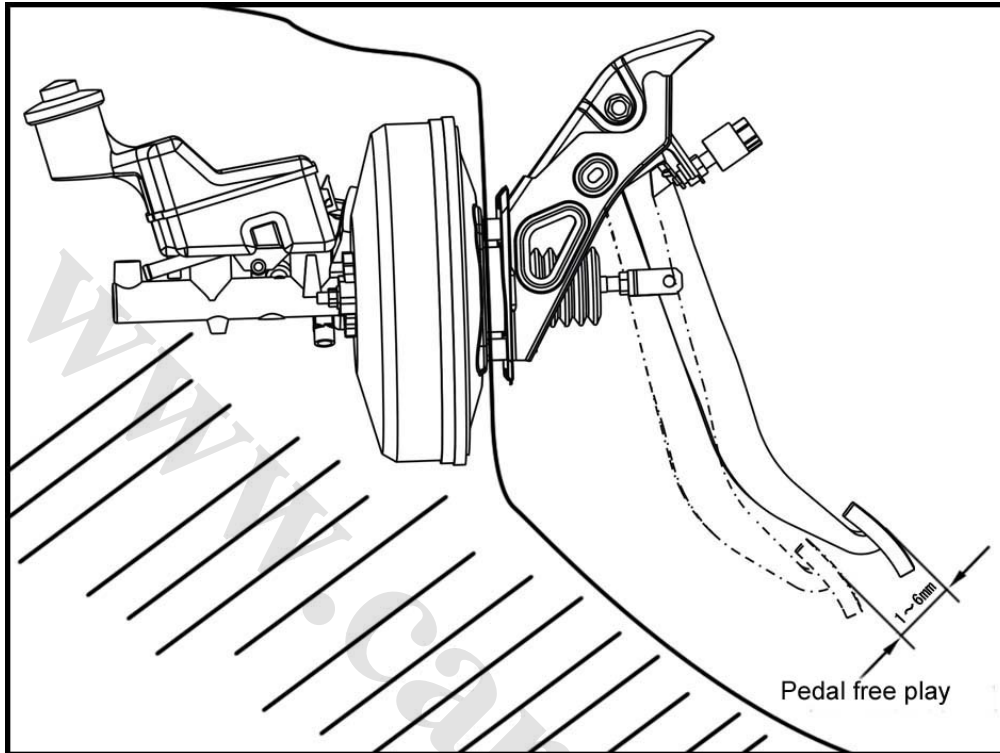

Fig. 2-44
- 2) Step down the pedal until resistance is felt. Measure the distance shown in Fig. 2-44. Free play of pedal: 1-6mm. In case of clearance out of specifications, check the clearance of the brake lamp switch. In case of an incorrect clearance, diagnose the brake system. Brake lamp clearance: 0.5-2.4mm.